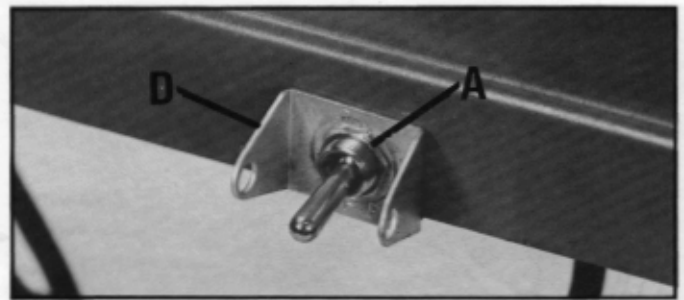

Fig. 9
4. Place the switch bracket (D) Fig. 9, on switch stem with key of switch bracket engaged with key way in switch stem. Fasten switch in place with hex nut (A) that was removed in Step 2. NOTE: The excess wire from the motor to the switch should be wrapped and tied and then positioned out of the way.